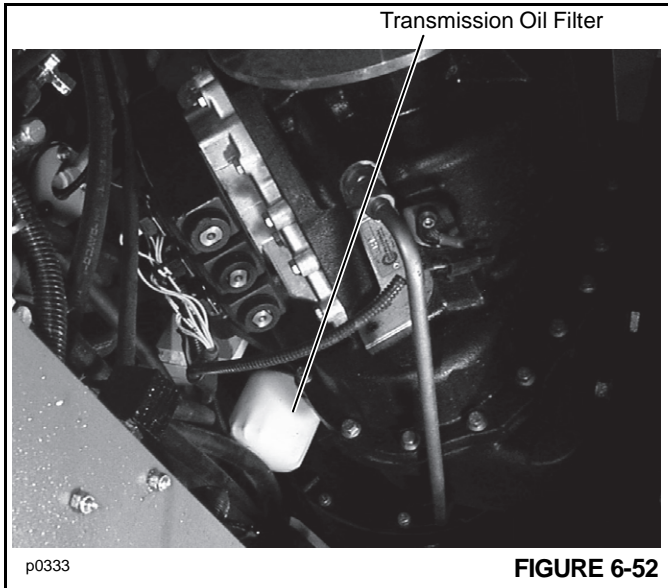

FIGURE 6-52
6. Remove the transmission oil filter by unscrewing it from the transmission housing (Figure 6-52). Properly discard the filter.